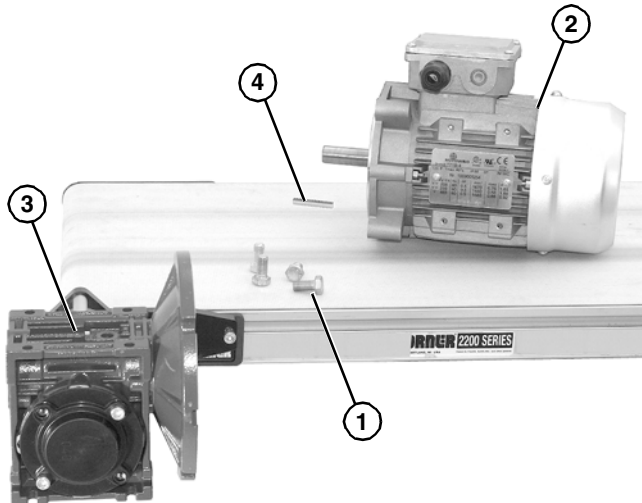
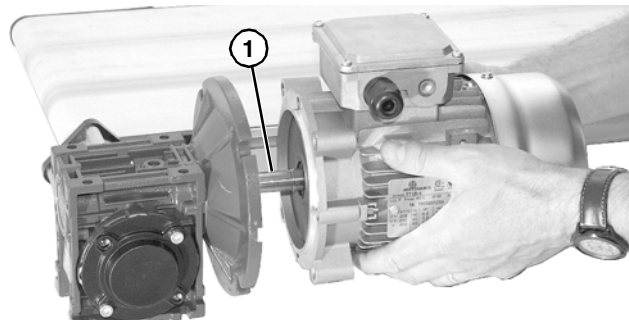

Figure 42
Figure 43
1. Remove four screws (**Figure 42, item 1**). Detach motor (**Figure 42, item 2**) from gear reducer (**Figure 42, item 3**). Retain motor output shaft key (**Figure 42, item 4**).
2. Apply anti-seize to motor shaft before assembling to gearbox. With key (**Figure 43, item 1**) in keyway, slide motor and gear reducer together. Install screws (**Figure 42, item 1**) and tighten.